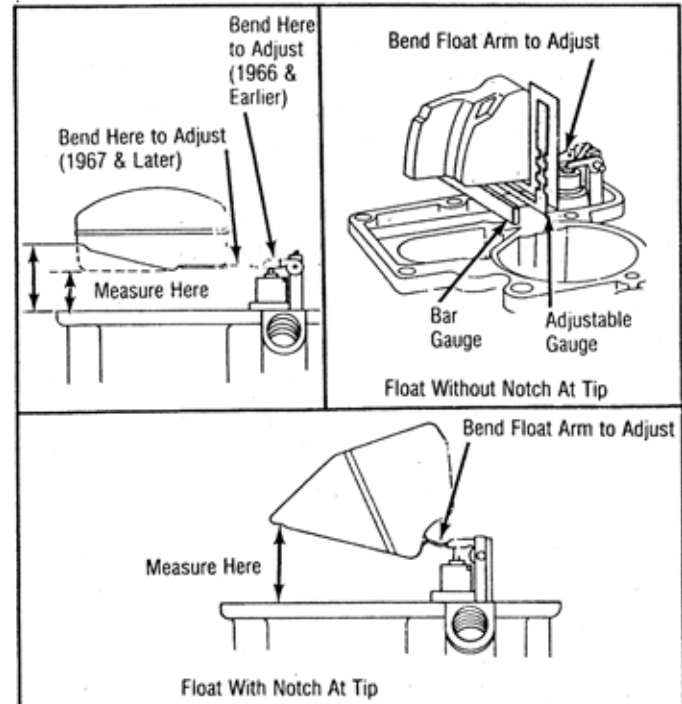

Fig. 1 Float Level Adjustment
NOTE: Depending on application, one of four float designs is used with this carburetor. Specifications and point of measurement for float level and drop will differ with on float design. See figures 1 and 2.
1. Invert air horn and allow weight of float to rest on closed needle valve. Adjustment is checked using either the specified bar gauge or adjustable gauge included in kit. See Fig. 1.